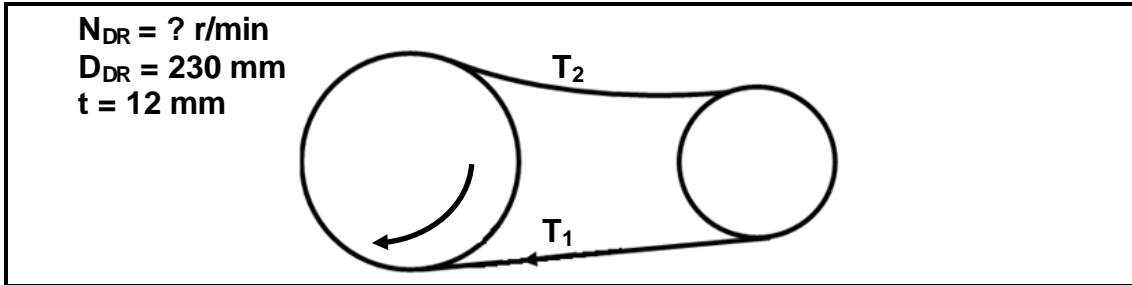

FIGURE 9.2
9.2 FIGURE 9.2 shows a belt-drive system with a 230 mm driver pulley. The belt speed of the 12 mm thick V-belt is $36 \text{ m}\cdot\text{s}^{-1}$. The tensile force in the slack side is 110 N and the ratio between the force in the tight side and the force in the slack side is 2,5.